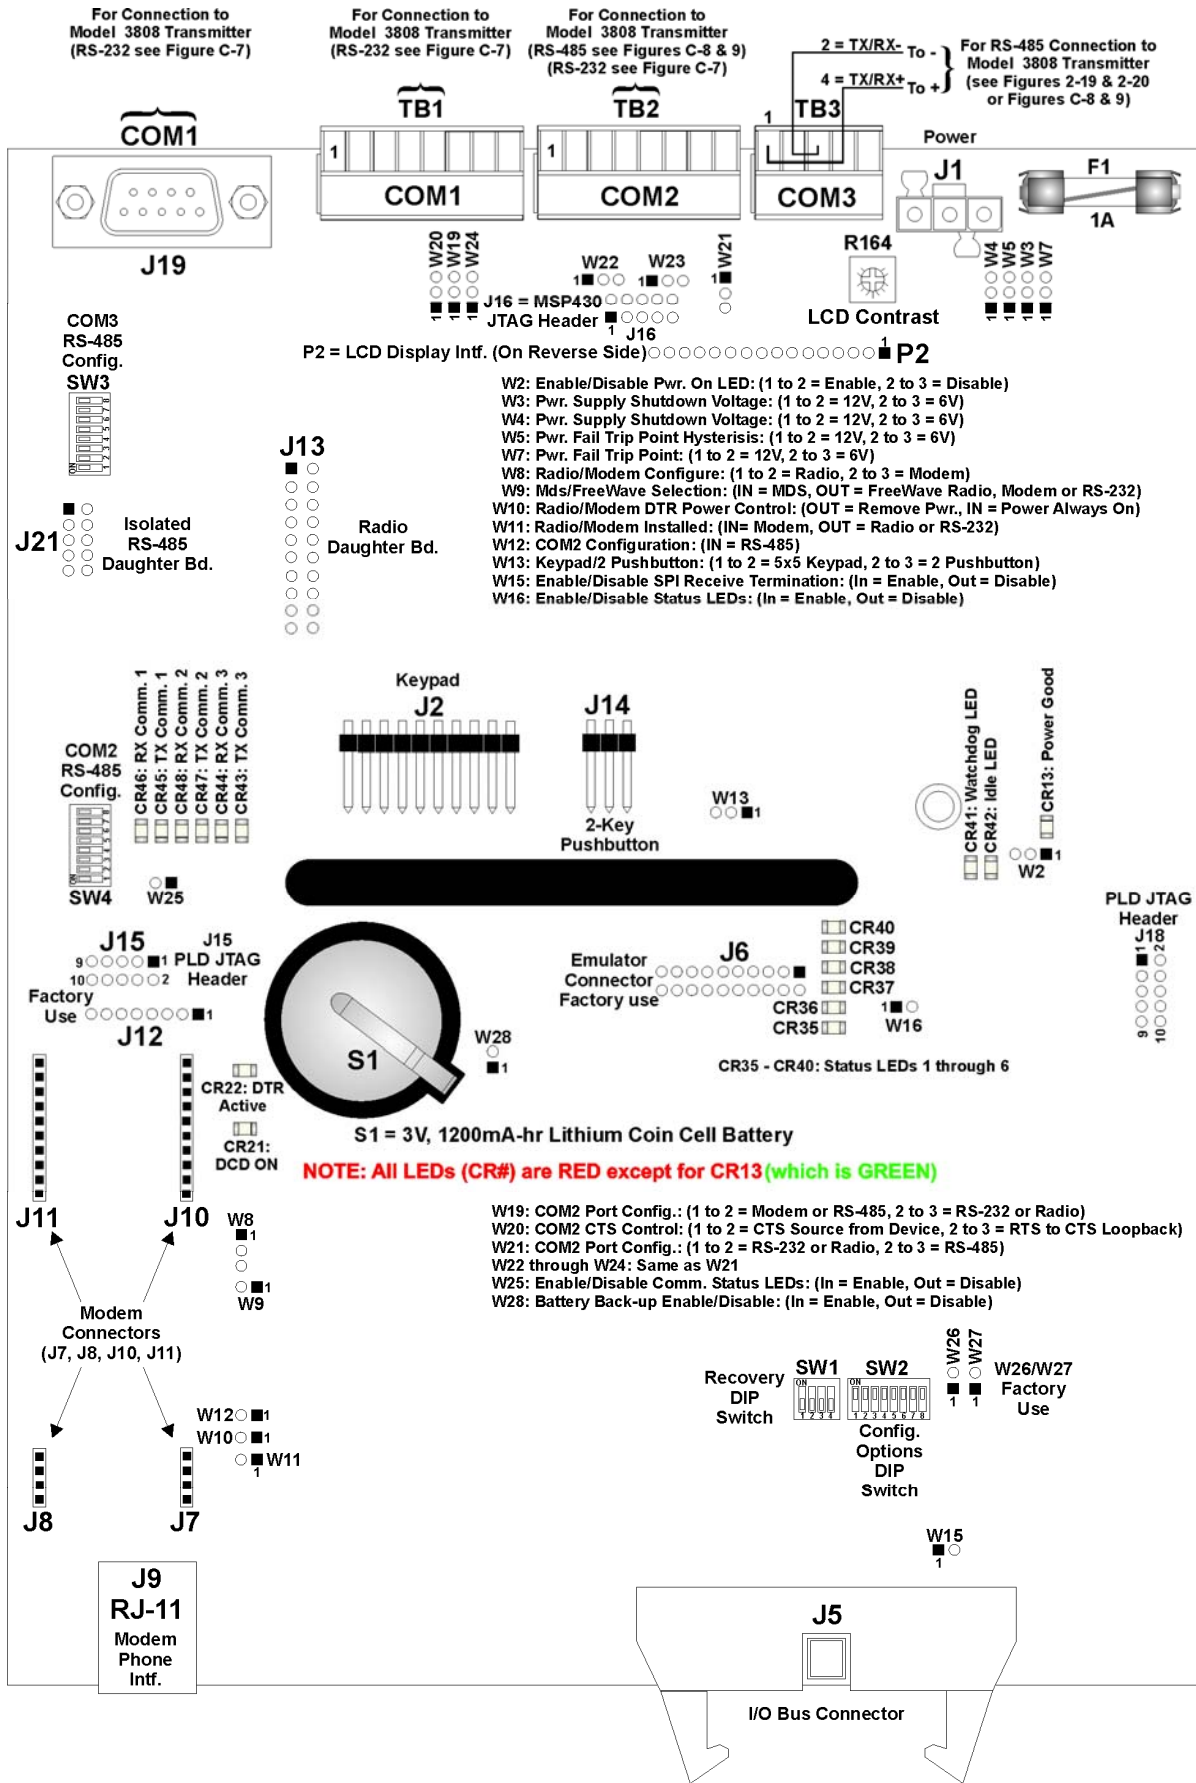

Figure C-2 - ControlWave GFC-CL CPU/System Controller Board Component Identification Diagram
2. Remove the Battery Charger & I/O Board Assembly and after configuring its configuration jumpers, install it into **ControlWave GFC-CL** Enclosure (see Figure C-2).
Controller Board's DIP Switches and Jumpers. Tables C-1 through C-3 provides overviews of the Switch Settings (see Figure C-2).